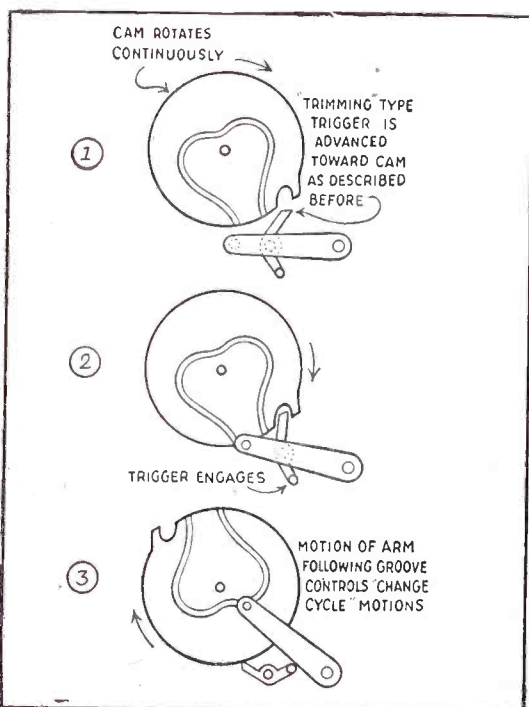
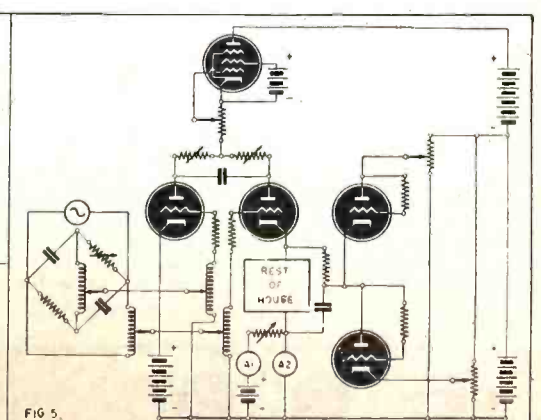

Fig. 1—A repeater operating on the same principles as those described last month.
FIG 5
The wave form will not be very satisfactory with this circuit. To overcome this, a grid clipping resistor is sometimes used in the input, as in Fig. 5. When sufficient positive voltage is applied to the grid con-
Fig. 1—Before and after clipping. Fig. 2—Ideal square wave. Fig. 3—Dynamic  $E_g$ - $I_p$  curve. Fig. 4—Making a square wave. Fig. 5—Limiting resistor. Fig. 6—How it works. Fig. 7—Differentiator circuit. Fig. 8—Pulsing circuit. Fig. 9—Positive and negative pulses. Fig. 10—Positive pulse amplifier (negative clipped). Fig. 11—Pulse wave forms (not to scale).
A COMMON type of repeating mechanism is shown in Fig. 1. The cam wheel is allowed to rotate continuously but no levers are in contact with it. The trigger serves to throw another arm into a groove on the cam wheel. The arm will follow this groove like a track from one end to the other until it is ejected at the end of its course.
Another setup using an eccentric shaft is diagrammed in Fig. 5. In this case the spindle rotates continuously and supplies motion to the turntable.
Fig. 2—Old-type record selector. Fig. 3—A common modern method. Fig. 4—Eccentric-shaft mechanism. Fig. 5—The details of another eccentric-shaft method. Fig. 6—A 10- and 12-inch changeover lever.
Fig. 5 illustrates the control circuit employed when studying the equivalent circuit of a house. This arrangement is bound to become a most important tool in the investigation of thermal insulation.
**H**ERE is a very sensitive device for detection of objects. A gas discharge tube is used in conjunction with an external "antenna," Fig. 5. The tube should have a diameter of about 1/5 the length for most sensitive results. Argon at about .6 mm. pressure is used and a voltage of about 30 impressed between anode and cathode. The external electrode is supplied with 1000 volts, causing about 1 ampere to flow in the anode circuit, in the discharge state. Spacing between external electrode and tube is decreased until the discharge just stops. Now any object coming into the field especially between antenna and tube causes discharge to return. It is possible to detect objects about 6 ft. from the system.
Fig. 5—An intrusion detector. Fig. 6—A space-charge circuit. Fig. 7—Ultra-high-frequency transceiver. Fig. 8—UHF reflector. Fig. 9—Bent electron multiplier. Fig. 10—A relaxation oscillator.